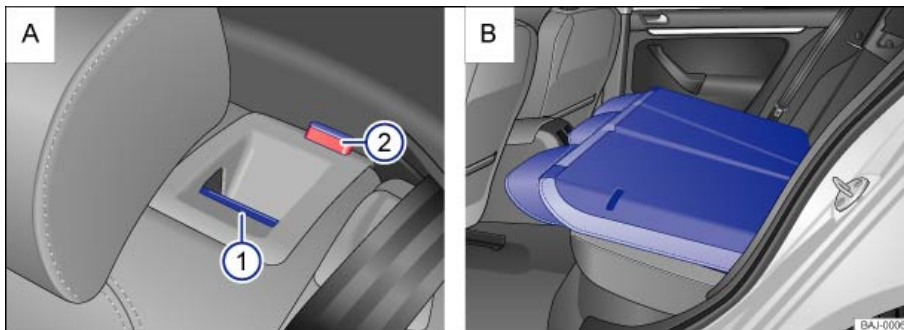

Fig. 90 A: Rear seat bench: release button 1, red mark 2. B: Seat backrest folded forward.
- Pull the release button ⇒ fig. 90 (1) forward while folding the rear seat backrest forward.
- The rear seat backrest is unlocked if the red area (2) can be seen on the button.